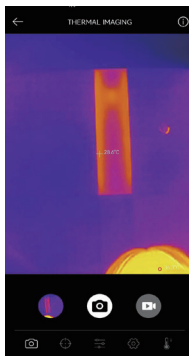

Figure 3.2.1
4. To view the saved images/videos, tap on the thumbnail in the lower left corner (see figure 3.2.1).